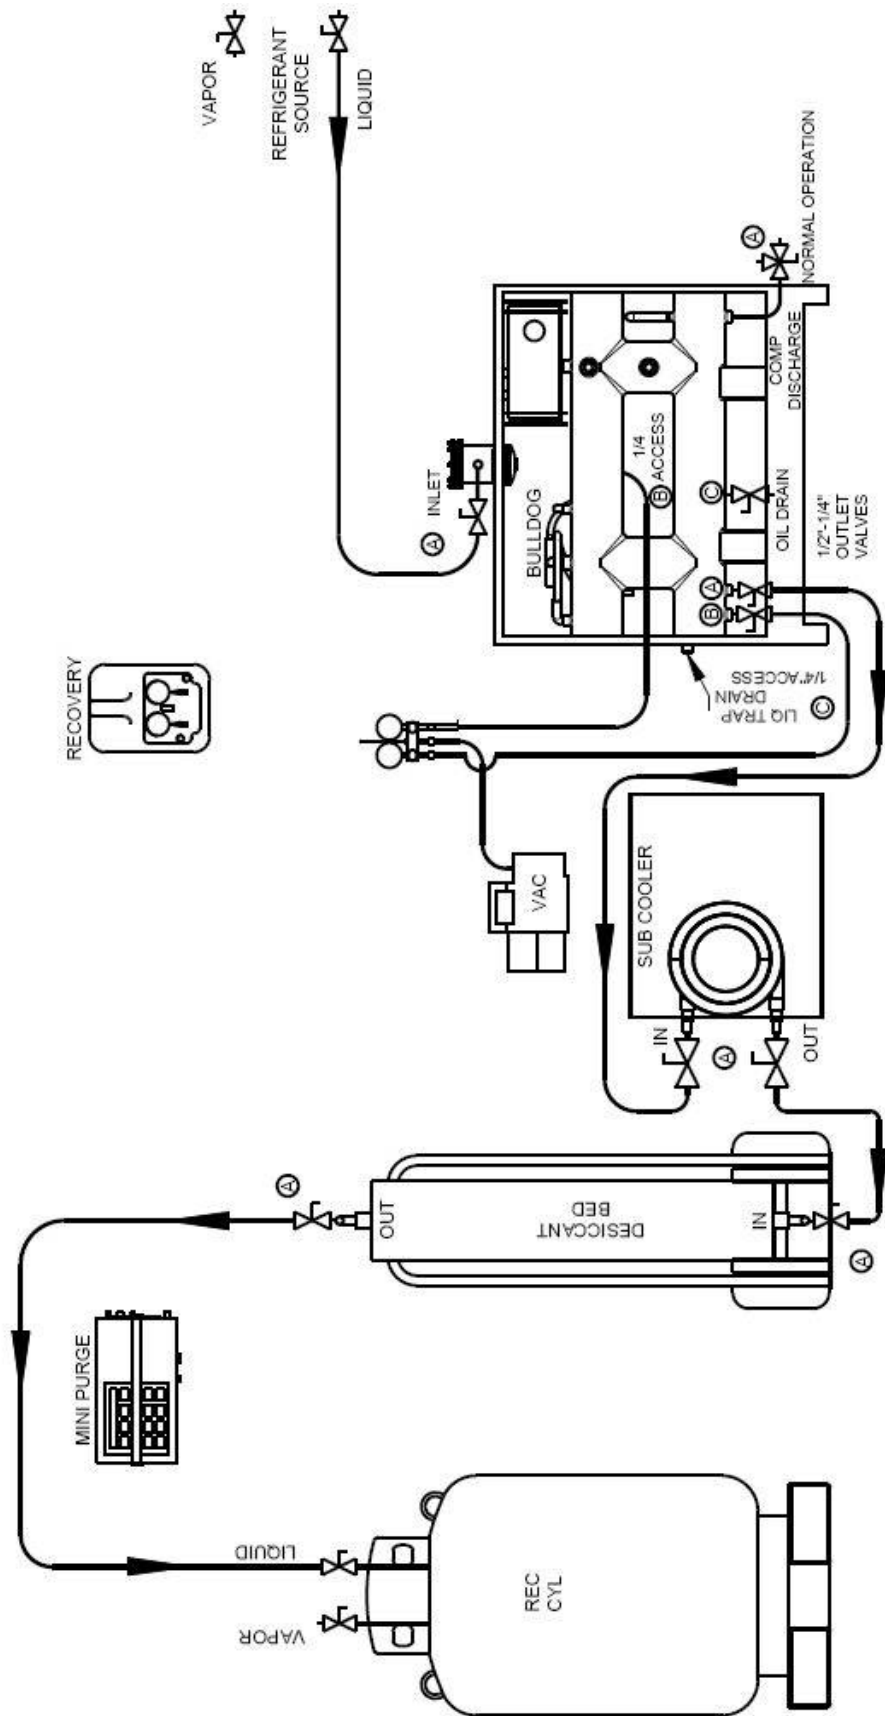

FIGURE 3: RECLAIM
3. Connect high pressure refrigerant hoses, as shown in (Figure 3) on page 14. At this time, connect safety float cable from BullDog to recovery tank or use a suitable scale. If a scale is to be used instead of float safety cutout, the 80% full bypass switch will need to be set to the On position for BullDog to run.
4. Open isolation valves on BullDog and hoses (Figure 3) (A). And turn compressor discharge 3-way valve to NORMAL Position.
5. Connect vacuum pump to 1/4" Access fittings Located on Outlet side and Compressor Suction (Figure 3) (B) on page 13 – Pull 29" Hg Disconnect Vacuum Pump after 29" Hg is reached!
**WARNING: Before attempting to operate this unit in vapor mode, make absolutely sure that the hoses on unit (Figure 3) (A) page 16 are hooked up correctly!**
3. For the first 2 hours of operation, User must check for waste oil at the liquid trap. Then every 1/2hr and drain as needed. To drain oil, close Inlet valve on BullDog, when suction pressure reaches 10psi turn power off to sub-cooler and BullDog. Drain oil at still & liquid trap (Figure 3) (C) page 16.